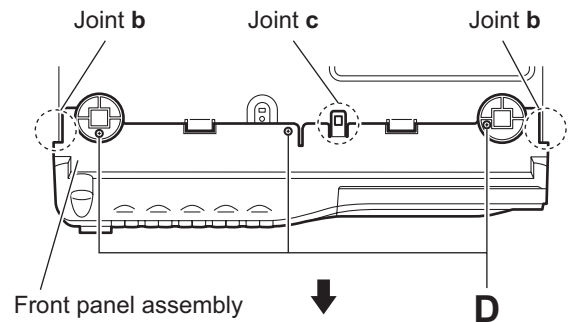

Fig.6
- (4) From the bottom side of the main body, remove the three screws **D** attaching the front panel assembly. (See Fig. 6.)
- (5) From the both and bottom sides of the main body, remove the front panel assembly in the direction of the arrow while releasing the joints **b** and **c**. (See Fig. 6.)